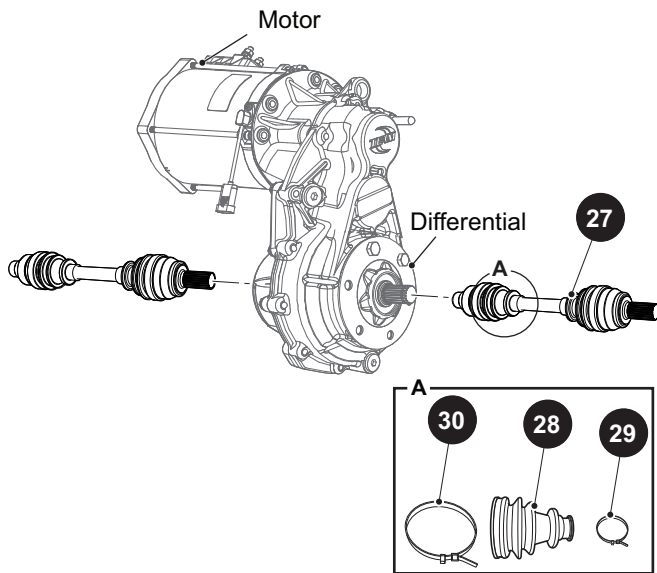

Fig. 7 CV Boot Replacement
2. Inspect the inner and outer CV joint boots (28) for damage (Ref. Fig. 7).
3. Cut the CV joint boot clamps (29) and (30) and remove the CV joint boot (28).